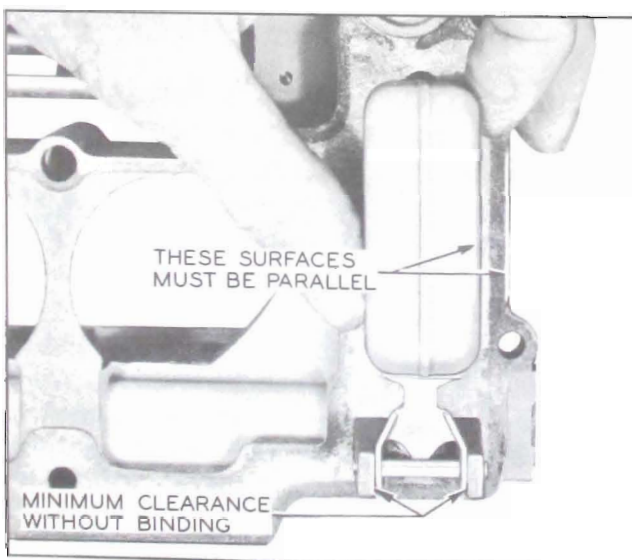

Figure 3-39—Float Alignment
9. **Align Float.** Sight down side of float to determine if side is parallel with outer edge of air horn. If adjustment is necessary, bend float lever by applying pressure to end of float with fingers while supporting float lever with thumb. See Figure 3-39.